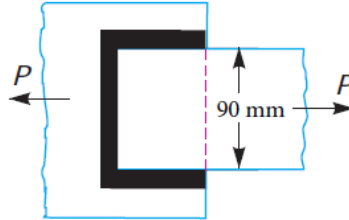

Figure Q3 (a)
- (a) A plate 90 mm wide and 12.5 mm thick is joined with another plate by a single transverse weld and a double parallel fillet weld as shown in **Figure Q3 (a)**. The maximum tensile and shear stresses are 70 MPa and 56 MPa respectively. Find the length of each parallel fillet weld, if the joint is subjected only to **static loading**. Assume, load is distributed evenly along the entire weld length and stress is spread evenly over its effective section. (08 marks)